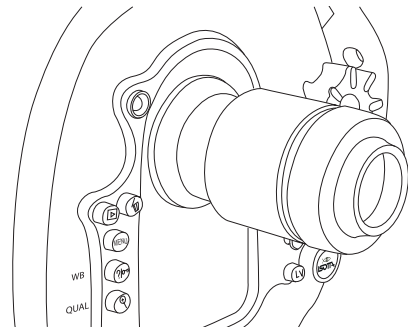

Figure 13
- Gently push the viewfinder from the outside of the Back inwards until it stops; (fig. 13)